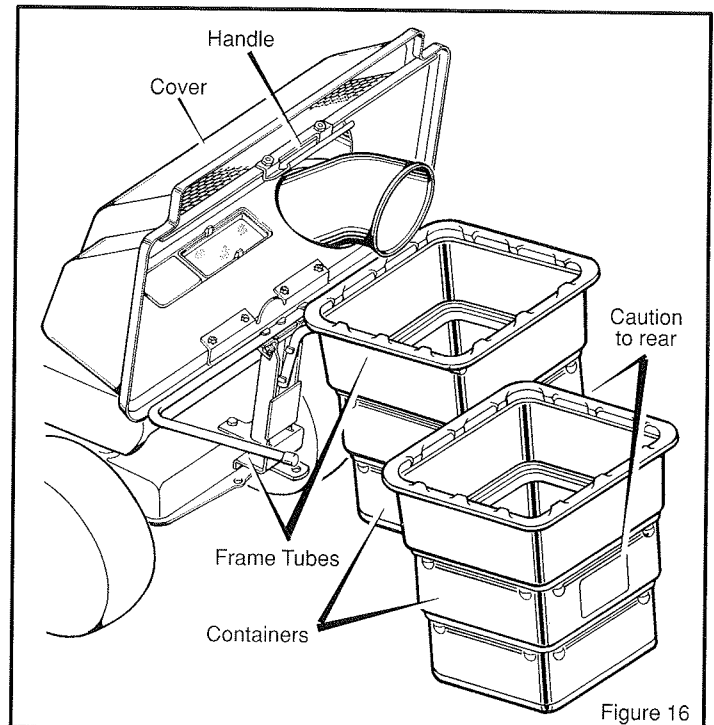

Figure 16
1. Tilt the seat forward. Raise the **cover** (Figure 16).